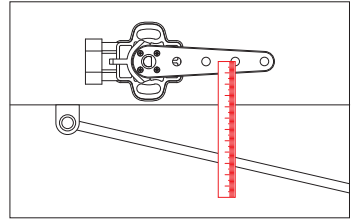

Fig. 9: Sensor arm length
1. Using a transmission jack, position the suspension at the center of its travel and the sensor arm at the center of its working range. Now measure the distance [D] between the selected mounting hole and the coupling rod attachment point (Fig. 9).